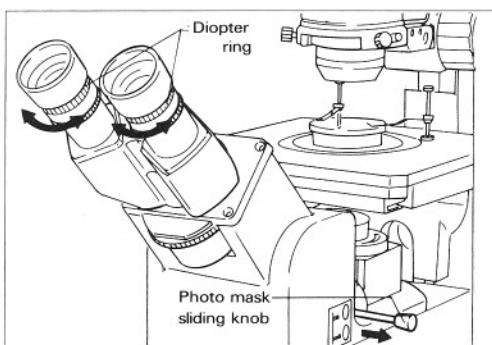

Fig. 21
- 2) Turning the diopter ring on each eyepiece, until the crossline image appears sharp. Do this adjustment for right- and lefthand eyepieces. (Fig. 21)